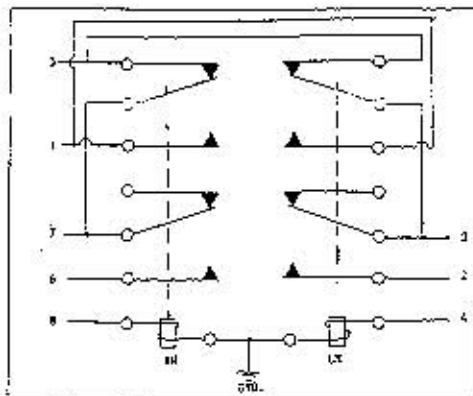
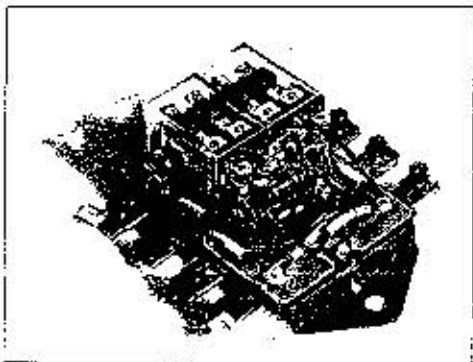

Figure 4: Schematic of how the relays are wired.
Figure 5: Top view assembly wired. Take your time, it's a tight pack.
13. Wire the relays per the schematic, Figure 4. See Figure 5 which shows the relays wired.